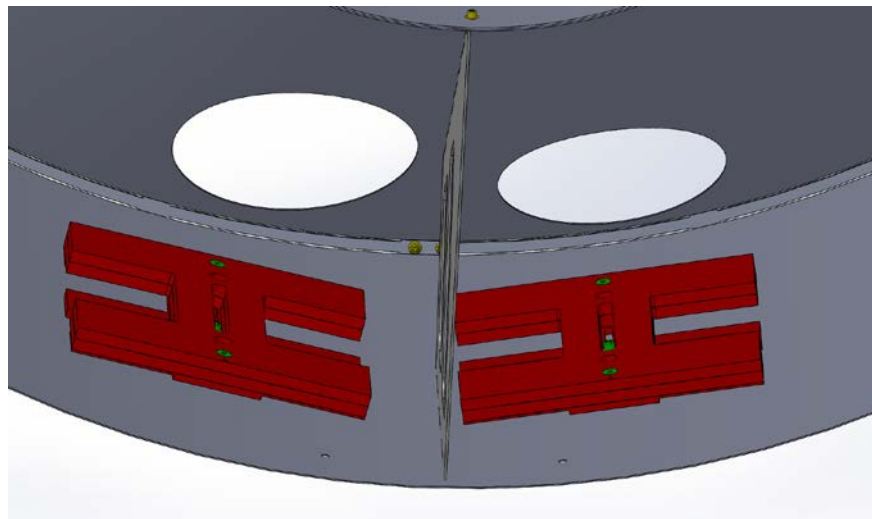

Figure 28: Balance Weights
1. Assemble Balance Weights on baffle using Balance Weight Assembly Drawing D1002402. D1002403 attaches with the BU-1016-N, and #10 washer coming up from the underside of the weldment. Variable Balance Weights (D1002417) are determined by LIGO-DOCUMENT-E1300420. Attach weights to the top of the bottom cylinder with the engraved arrow pointing away from the Face Plates (Figure 28) until the spring blades pull away from the support ring just enough so that the Bend Fixture Shims D1101341 can be removed. This should create a gap of approximately 0.263in between the top side of the blade and the inside of the support ring.